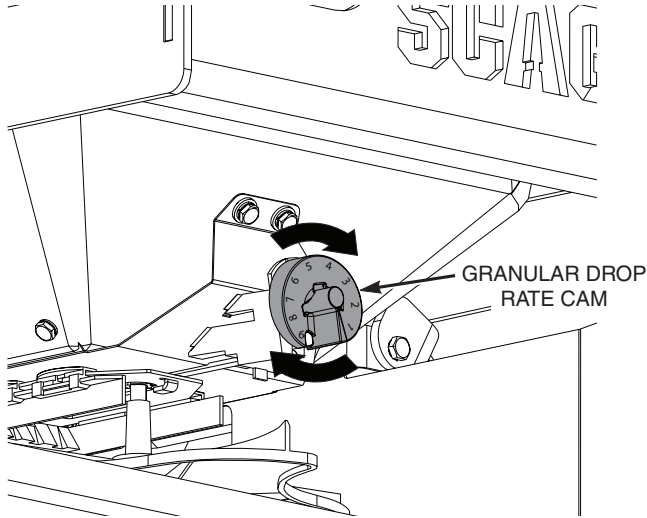

Figure 6-9. Granular Drop Rate Cam
3. Rotate the granular drop rate cam to allow the hopper gate to open to the maximum position. See Figure 6-9